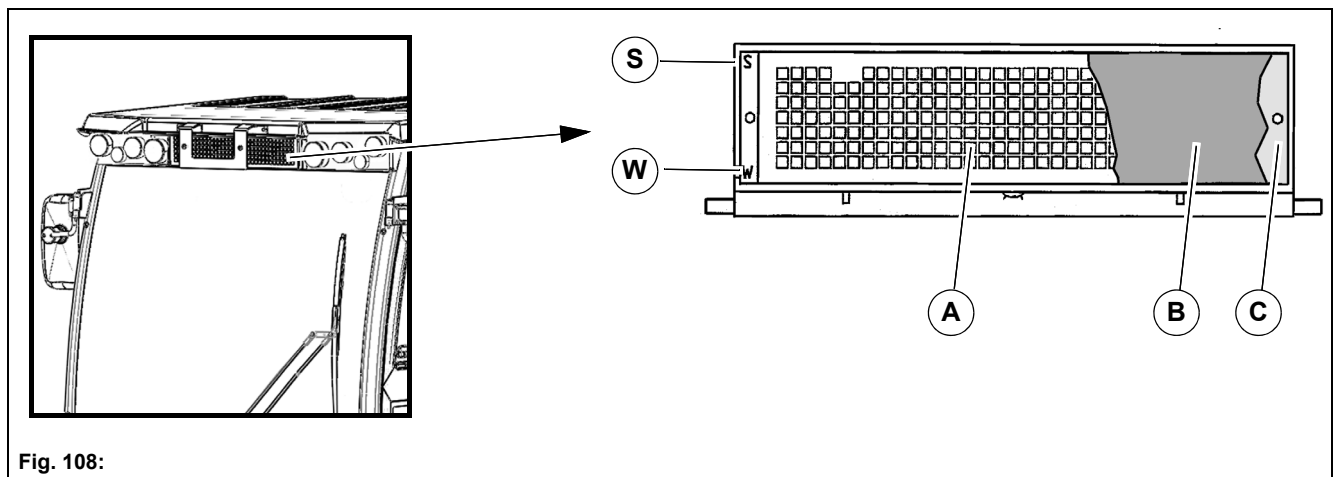

Fig. 108:
2. Loosen the four mounting screws of the protective grille **Fig. 108-A** and remove the protective grille.
3. Remove and clean the cab air filter **Fig. 108-B** and renew it if necessary.
Insert the perforated plate **Fig. 108-C** located behind the cab air filter so that the mark points to the "S".